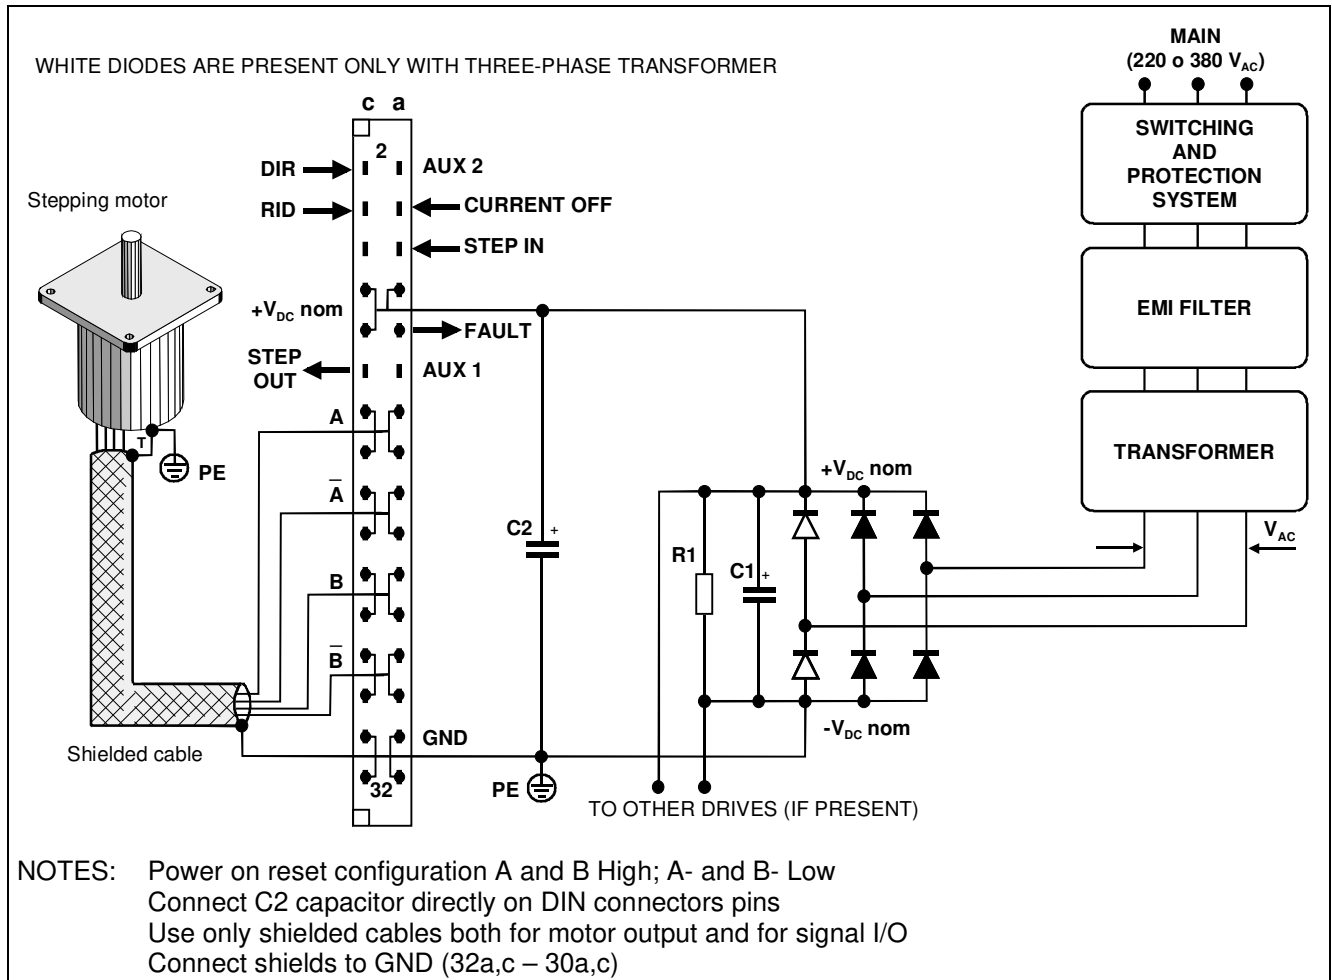

Fig. 4
In fig. 4 an example of the drive external cabling is indicated, showing the way to realize the power supply which has to be made by user; these indications apply only when user buys the drive alone without rack, motherboard and power supply produced by R.T.A.: in the case you have a complete rack with power supply, refer to chapter 8.
- 7.2 - In the schematic diagram of fig. 4 it is shown the possibility to use a single-phase group or, in alternative, a three-phase group. The choice between the two solutions depends on technical and economical considerations hard to summarize. Generally speaking a three-phase group is strongly recommended when the total required power overcomes one of these two limits: